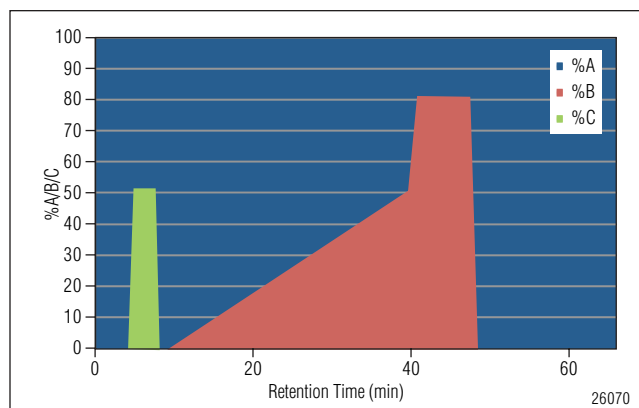

Figure 1. Gradient profile for the 50% SCX elution step. In consecutive runs, the concentration of C solvent increases to elute the sample from the SCX column.
MudPit analysis requires three mobile phases: the two for the RP gradient (AB) and one for the SCX elution (C). An SCX wash solution is commonly used as the fourth eluent (D). The gradient profile for the 50% C elution step is represented schematically in Figure 1.
The MS data for the *E. coli* samples are shown in Figure 4. The data consists of base peak chromatograms (BPC) of the increasing salt elution steps (indicated as the % C). The RP gradients are identical in all runs. For further details see Figure 1 and Table 1.